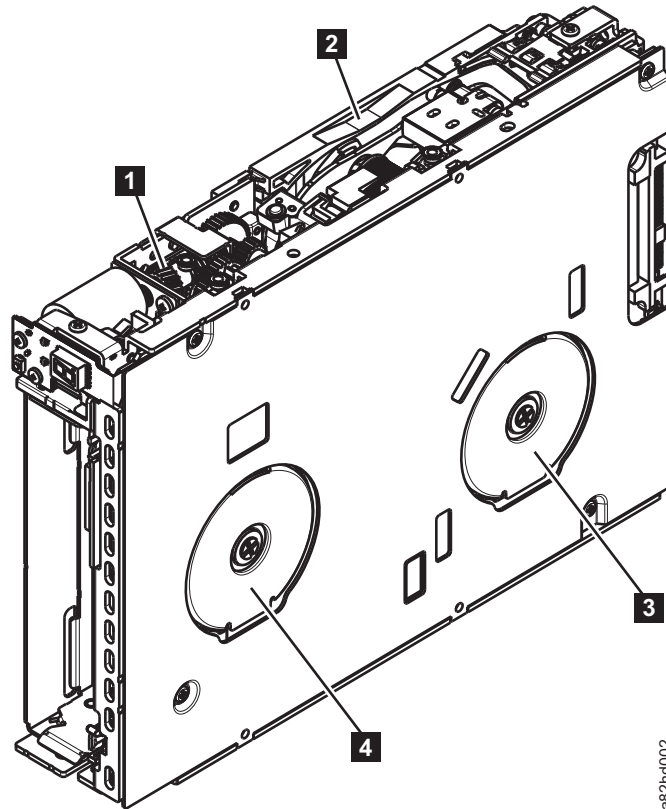

Figure E-6. Rewinding tape into cartridge
Attention: DO NOT TOUCH THE OUTER GUIDE RAIL (**2** in Figure E-6 on page E-7). THIS RAIL IS VERY DELICATE AND EASILY DAMAGED.
5. Turn the supply reel (**4** in Figure E-6) clockwise, allowing the moistened tape to adhere to the hub as it winds around the supply reel (inside the cartridge).
6. Continue spooling into the cartridge until the tape is taut and remains within the flanges of the tape guiding rollers. Turn the supply reel (**4** in Figure E-6) 10 additional turns. Ensure that you do not stretch the tape.